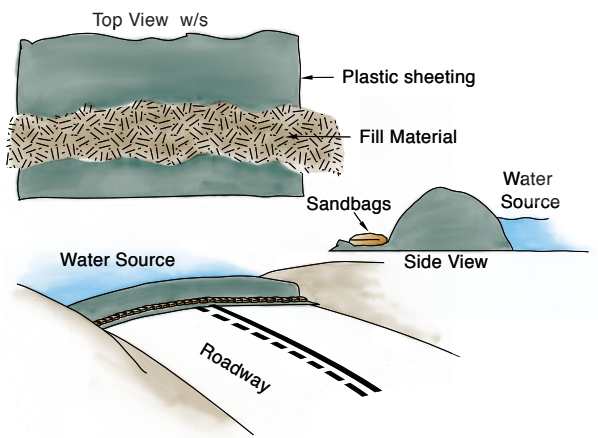

Figure 4: Temporary levee
- Unfold a 20'x100'x10 mil roll of plastic sheeting and lay out flat on area to be raised (see Figure 4).